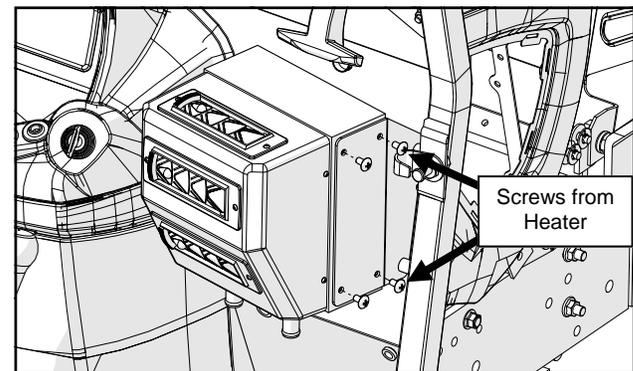

Fig. 15.2 (Install Heater)
- 15.2** Attach the heater to the heater bracket using the screws already installed on the side of the heater. See Figure 15.2. Tighten hardware.